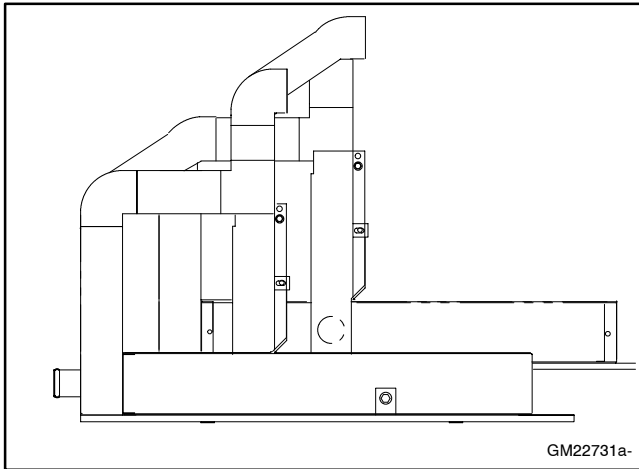

Figure 10 Rail Framework
8.2 See Figure 10. On the service side, generator end, attach the subassembly from step 8.1 onto the corners of the rails (363512-S and 363523-S). Use the preassembled speed clip, screws (X-465-24 qty. 2), and washers (X-25-142 qty. 2) to secure.
8.3 See Figure 10. On the nonservice side, generator end, attach the other end of the subassembly from step 8.1 onto the corners of the rails (363519-S and 363523-S). Use the preassembled speed clip, screws (X-465-24 qty. 2), and washers (X-25-142 qty. 2) to secure.